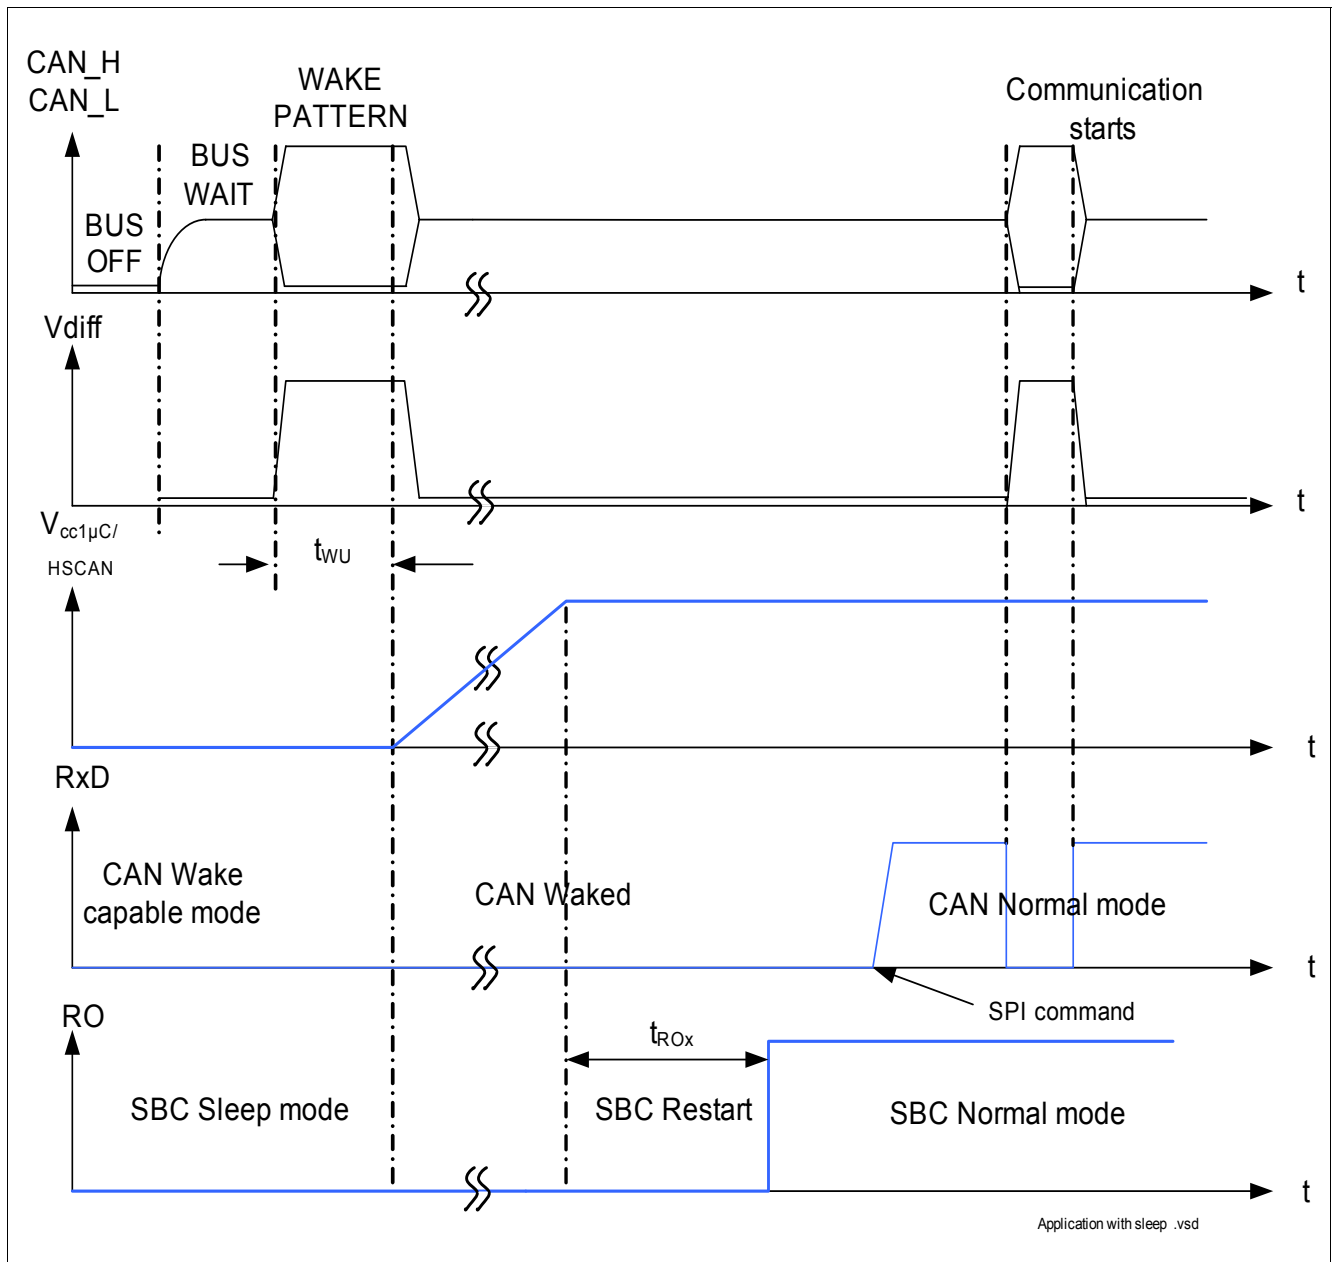

Figure 13 Timing during Transition from Sleep to Normal Mode
Refer to **Figure 13** for a description of the matching of the transceiver modes with the SBC mode.
Wake-up is possible via a CAN message (filtering time $t > t_{WU}$), it automatically transfers the SBC into the SBC Restart Mode and from there to Normal Mode the RxD pins in set to LOW, see Figure 13. The microcontroller is able to detect the low signal on RxD and to read the wake source out of the "Wake Register Interrupt" register (000) via SPI. No Interrupt is generated when coming out of Sleep Mode.
In SBC Sleep Mode, a wake-up on the CAN cell will set the SBC to Restart Mode automatically if the CAN Wake Capable Mode of the SBC is selected via SPI. **Figure 13** shows the typical timing.